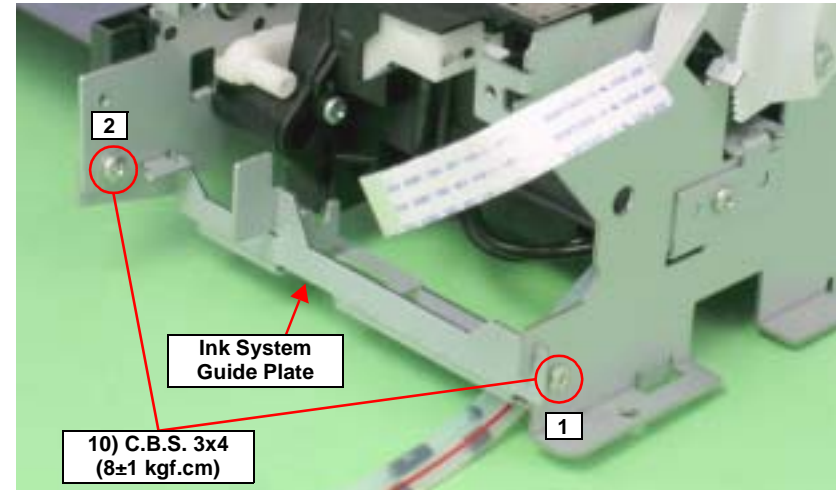

Figure 4-96. Removing the Ink System Guide Plate
- Tighten the screws in the order shown in Figure 4-96.